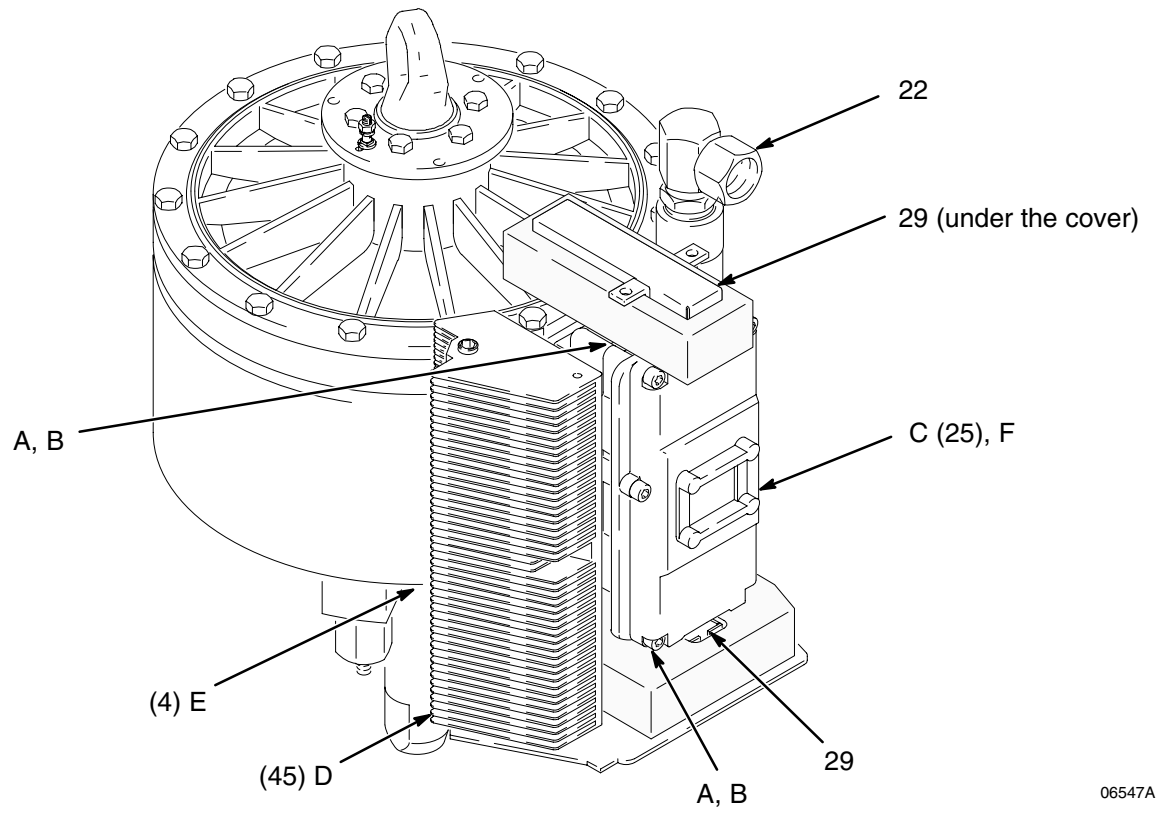

Fig. 2
3. Reinstall the air inlet fitting (22). Reconnect the air line.
4. Open the bleed-type master air valve and set the air regulator to about 0.1 MPa, 1 bar (14 psi). Observe the rocker arms and trip rods for smooth operation. Check at points A through E in Fig. 2 by listening or feeling for escaping air, or squirting a small amount of oil around the suspected leak. The oil will bubble if air is leaking. Refer to the sections noted in the Check Chart for detailed service procedures.